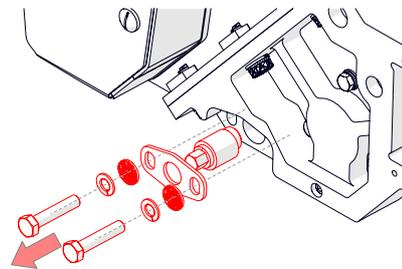

Fig. 16J - Remove the RH 2 x shear blade bolts and cam
10. Support the shear blade carrier and remove the 2 x M10 bolts of the right hand shear blade carrier [17 mm spanner] (Fig. 16J). Remove the plate and cam bolt. Lower the whole carrier to the floor gently.